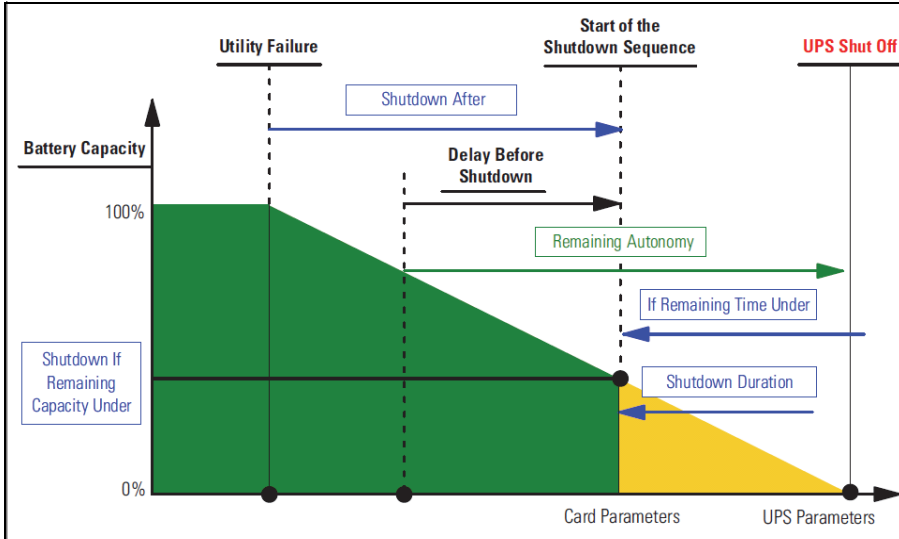

Figure 19. Shutdown Sequence
- When Dell Network Management Card or UPS shutdown criteria is reached. This decision is according to many criteria, as shown in Figure 19.